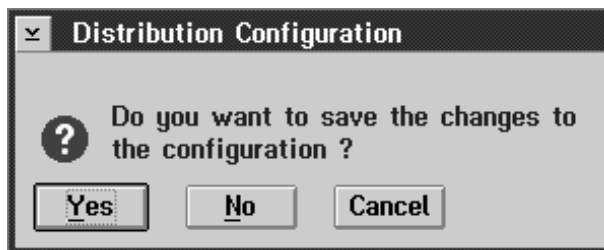

Figure 18. Configuration confirmation window
- 10 Installation continues with the window shown in Figure 18.